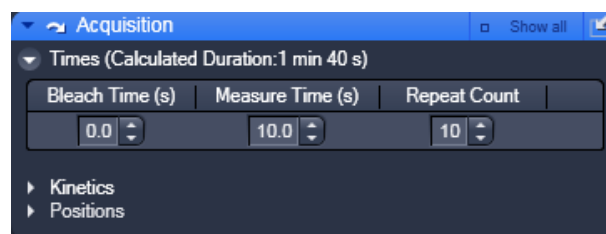

Fig. 39 Times panel
In the **Times** panel you can set the values for the **Bleach Time**, **Measure Time** and **Repeat Count** (Fig. 39).
- Click on the **Times** tab to open the **Times** panel (Fig. 39). Click again to close the panel.